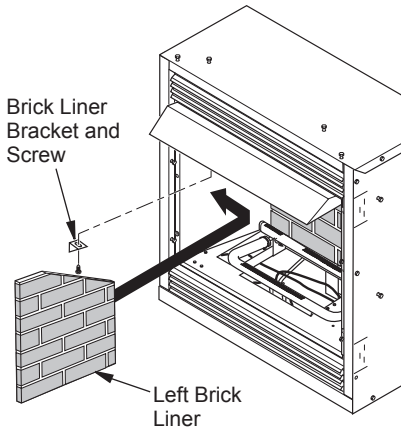

Figure 36 - Installing Side Brick Liners
3. Install left and right brick liners using brackets and screws from hardware kit as shown in Figure 36. Screw the bracket into top of firebox and against brick liners. Adjust bracket before tightening screw.